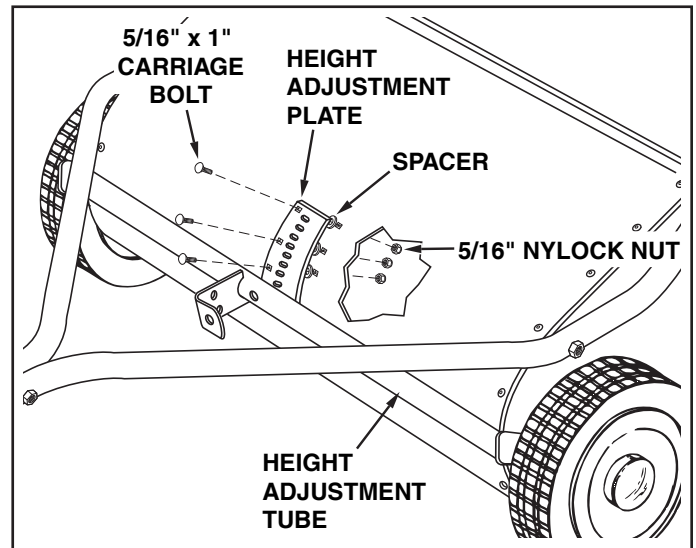

FIGURE 5
- Attach the height adjustment plate to the sweeper housing using three 5/16" x 1" carriage bolts, spacers (placed between plate and housing) and 5/16" nylock nuts. See figure 5.